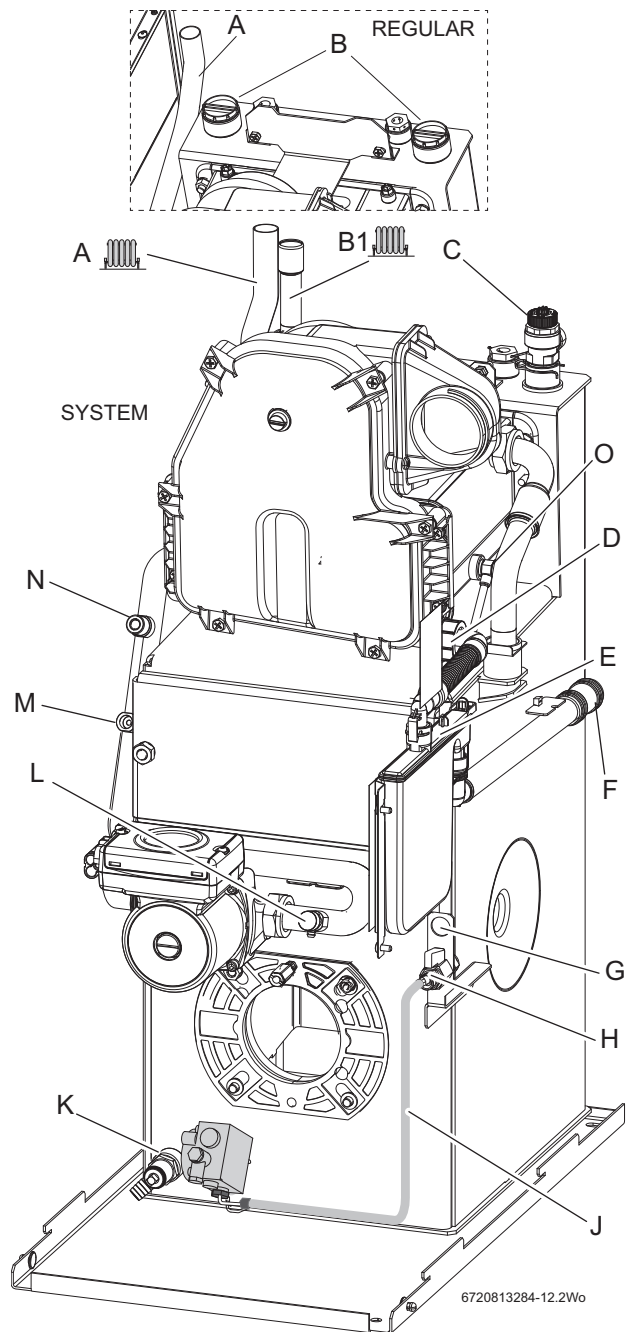

Fig. 45 Pipework connections
- ▶ Refer to figure 45 and ensure that the isolating valve (H) is closed and route the oil supply pipe along the right side of the boiler and connect to the isolating valve (H).
- ▶ Connect the 21.5mm polypropylene pipe (not supplied) to the condensate waste pipe flexible push fit connector (F) and terminate to waste. Do not use any solvents, adhesives or lubricants when pushing the pipe into the flexible push fit connector (F).
- ▶ Fill the condensate trap with 500ml of water via the condensate sump (P).
- ▶ Refit flue manifold access cover (R) and secure with screws (S).
2. Connect the flexible oil pipe return hose [3] (not supplied) to the oil pump and return pipe fixing and tighten to secure (for routing see figure 45).